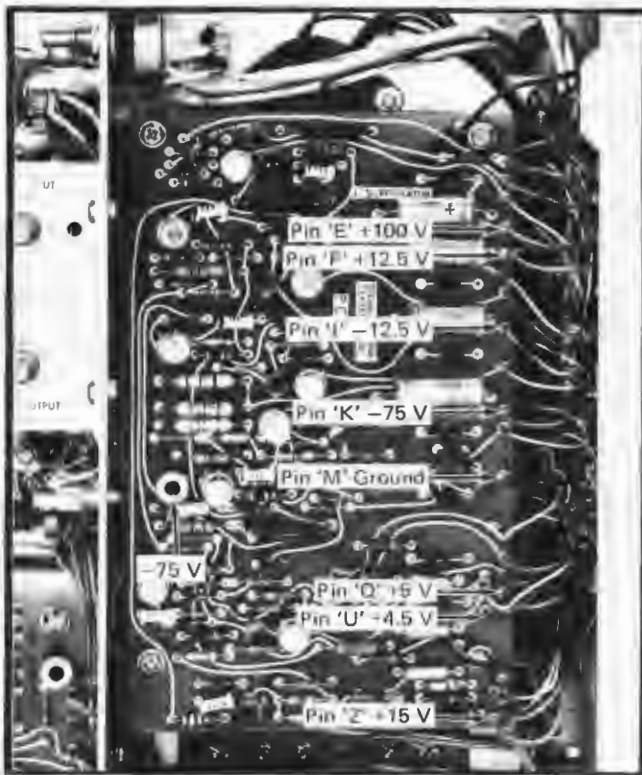

Fig. 5-1. L.V. REGULATOR circuit board: Location of test points and adjustments in steps 1 and 3.
c. Connect the negative lead of the DC voltmeter to ground, pin M on the L.V. REGULATOR board, (see Fig. 5-1). Connect the positive lead to the  $-75$  volt supply, pin K. Be sure the polarity of the DC voltmeter is set for measuring a negative voltage.
e. ADJUST-R721,  $-75$ -V adjustment, (see Fig. 5-1) if the voltage is not correct.
a. Move the positive lead of the DC voltmeter to the power supply test points (other than -75 volts) listed in Table 5-3. See Fig. 5-1 for pin locations. (Change polarity of voltmeter for positive voltages.)